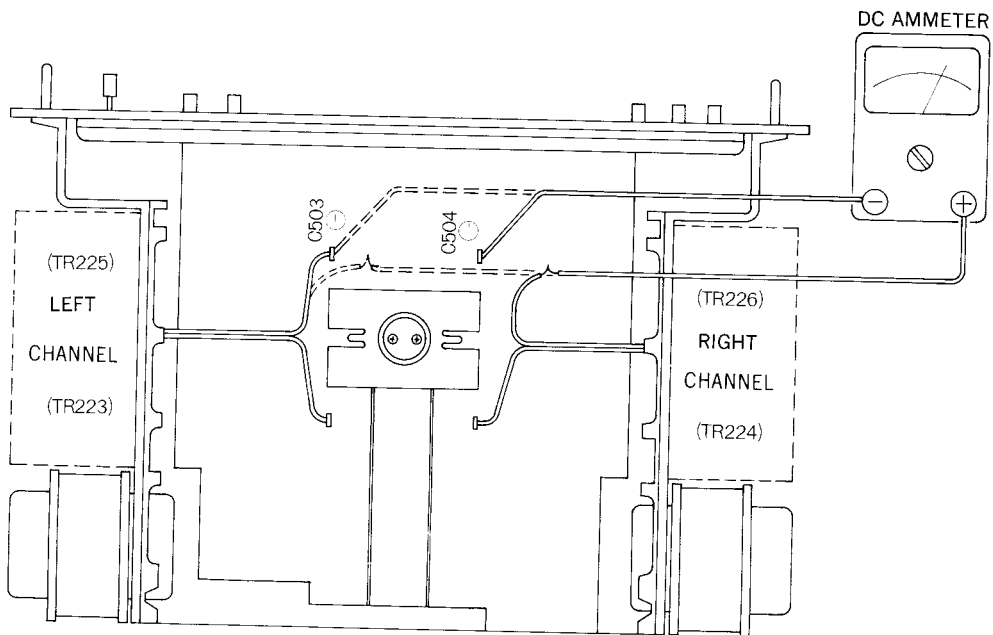

Fig. 2 (Abb. 2)
- 2 Remove the lead wire of the (-) side of the power supply electrolytic capacitor (C503), connect the (-) terminal of an ammeter (circuit tester) to the (-) terminal of the electrolytic capacitor (C503), and connect the (+) terminal of the ammeter (circuit tester) to the lead wire. (Refer to fig. 2)
- 1 Remove the lead wire of the (-) side of the power supply electrolytic capacitor (C504), connect the (-) terminal of an ammeter (circuit tester) to the (-) terminal of the electrolytic capacitor (C504), and connect the (+) terminal of the ammeter (circuit tester) to the lead wire. (Refer to fig. 2)
(Se référer à la Fig. 2).